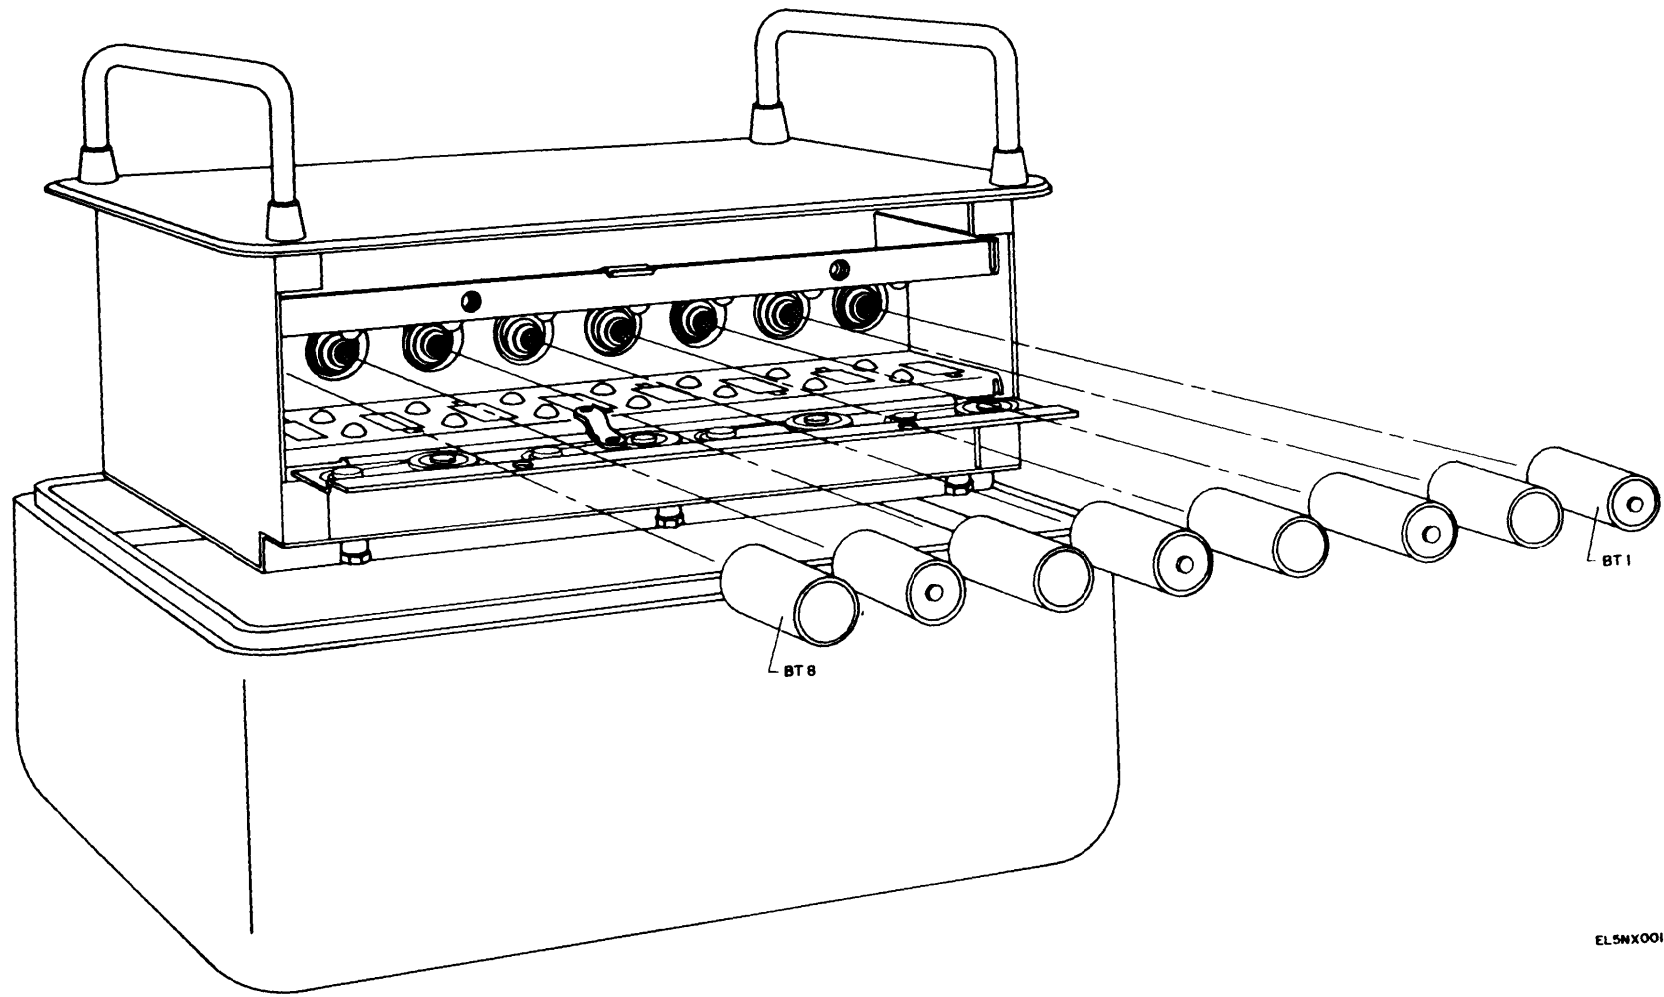

Figure 2-2. Location of batteries, dry BA-30. ■
(fig. 2-2)
- (1) Loosen the 10 captive screws around the front panel.
- (2) Remove the TS-1323/PTM-7 from the case with the handles provided on the front panel.
- (3) Open the battery compartment door by loosening the two captive screws and releasing the spring clip on the compartment door (fig. 2-2)
- (4) Remove any BA-30's that may be in the battery compartment.
- (5) Insert eight BA-30's, as shown in figure 2-2. Batteries BT1, BT3, BT5, and BT7 are installed so that the positive terminal engages the contact on the compartment door. Batteries BT2, BT4, BT6, and BT8 are installed in the opposite direction, so that the positive terminal engages the contact on the spring inside the compartment.
- (6) Close the compartment door, engage the spring clip, and tighten the two captive screws.
- (7) Replace the TS-1323/PTM-7 in the case. Tighten the captive screws.